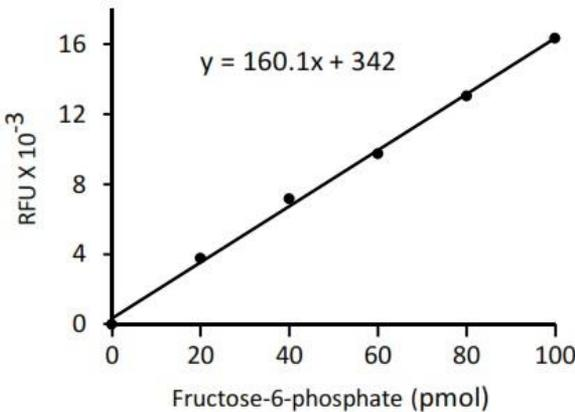

Figure 2. Typical F6P Standard calibration curve. This curve was created by diluting standard curve 10X.
**NOTE:** if your sample readings fall out the range of your fluorometric standard curve, you might need to adjust the dilutions and create a new standard curve (see Section 13, figure 2).